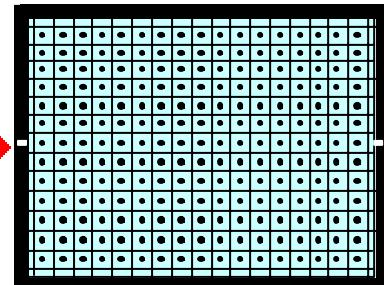

Fig.1-4 PAL CONVERGENCE
2. Use the VOLUME + or - key on the remote controller to adjust and match the dot mark appearing in the center of the cross hatch screen and the CRT center mark. (Fig. 1-4)